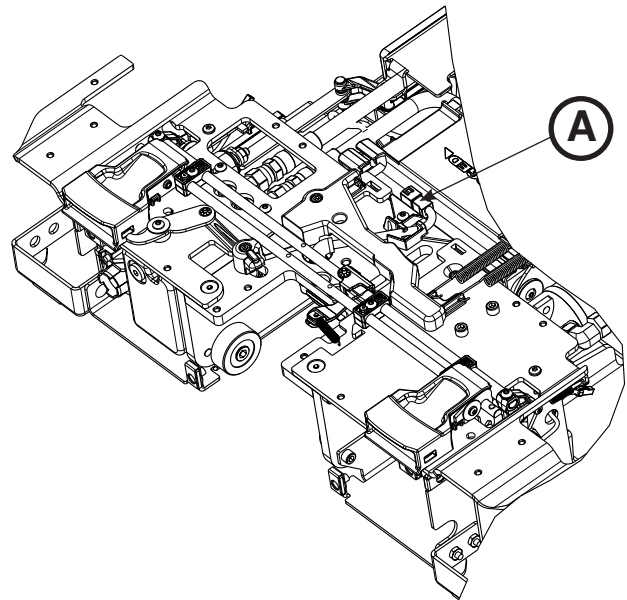

Figure 79
3. Unplug the TPS cable (A) from the main cable assembly (Figure 79).